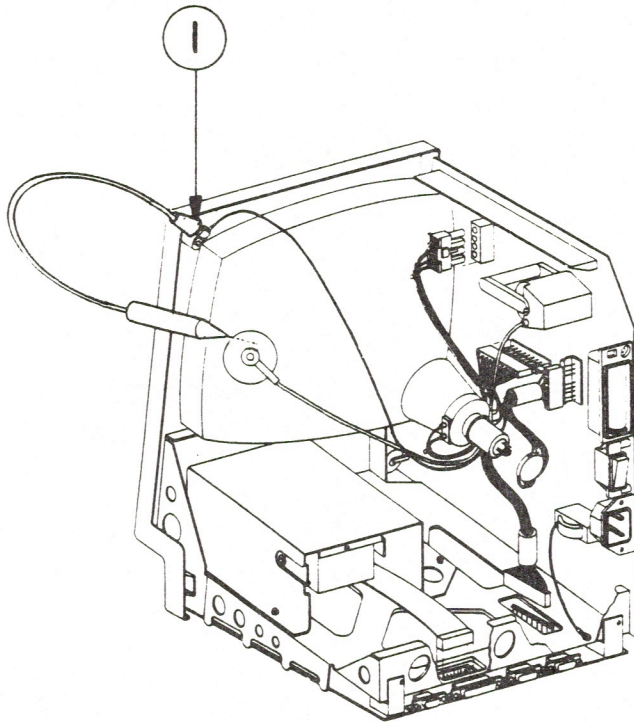

FIGURE 2
CAUTION: *Discharge the anode to the metal part of the ground lug displayed in Figure 2, #1. Failure to do so will damage the Logic and or Power/Sweep Board.*
2. Attach the alligator clip on the CRT discharge tool to the metal part of the ground lug (Figure 2, #1).
4. Hold the CRT discharge tool to the tube surface and insert it under the anode cap (Figure 2, #2) until it touches the anode ring.